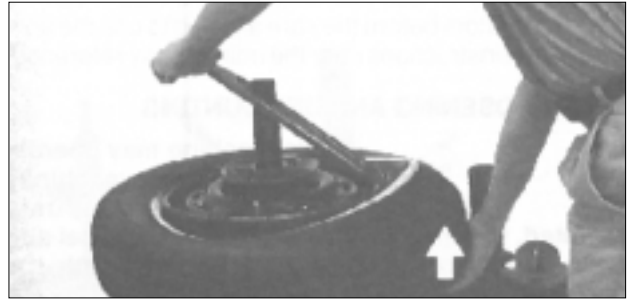

Figure 8 - Removing Upper Bead
10. Press down on the foot pedal. The counterclockwise rotation of the center post key and combination tool will remove the upper tire bead from the rim. Lifting up on the tire with the left hand as shown by the arrow in figure 8 helps in demounting tougher tires.